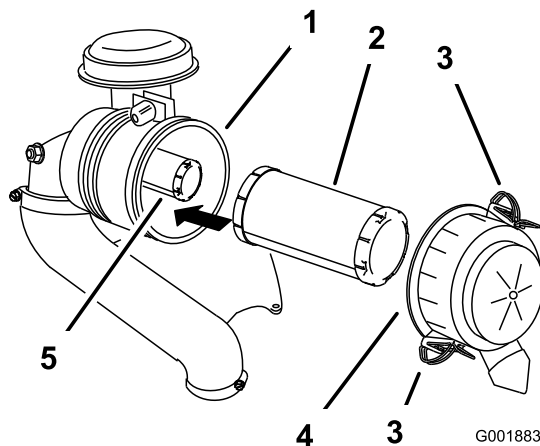

Figure 37
3. Release the latches on the air cleaner and pull the air-cleaner cover off the air-cleaner body (Figure 37).
5. Gently slide the primary filter out of the air-cleaner body (Figure 37).
2. If the safety filter is being replaced, carefully slide it into the filter body (Figure 37).
3. Carefully slide the primary filter over the safety filter (Figure 37).
4. Install the air-cleaner cover with the side indicated as up facing upward and secure the latches (Figure 37).